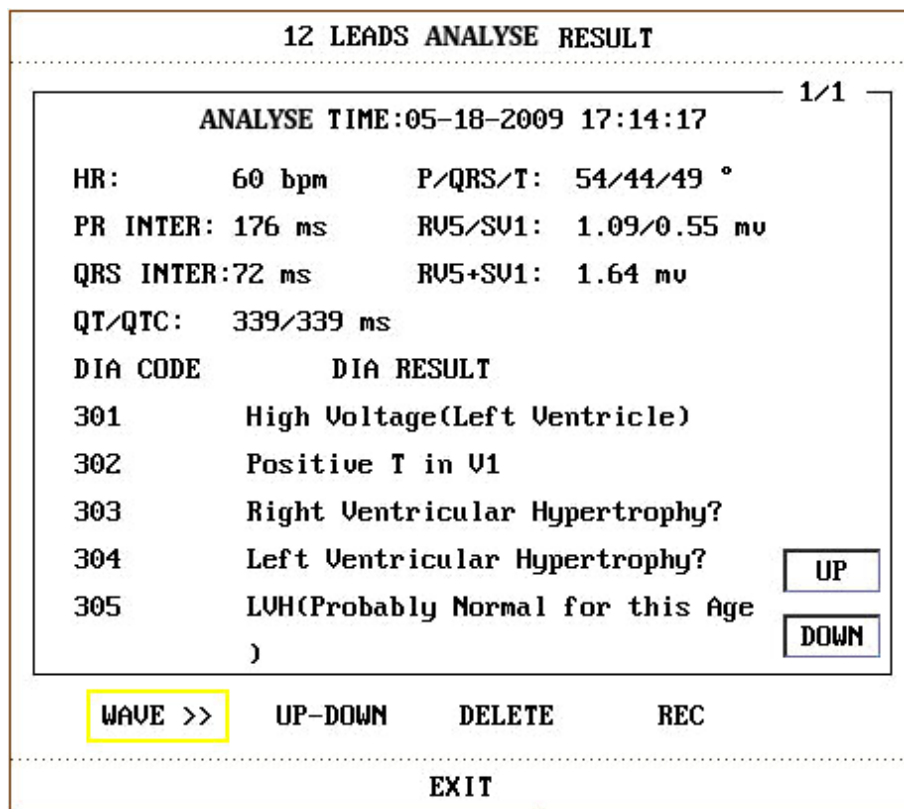

Figure 12-16 12-lead analysis results
- **ANALYSIS**: set to start the 12-lead analysis, the result will pop up after the analysis is finished, see figure12-16.